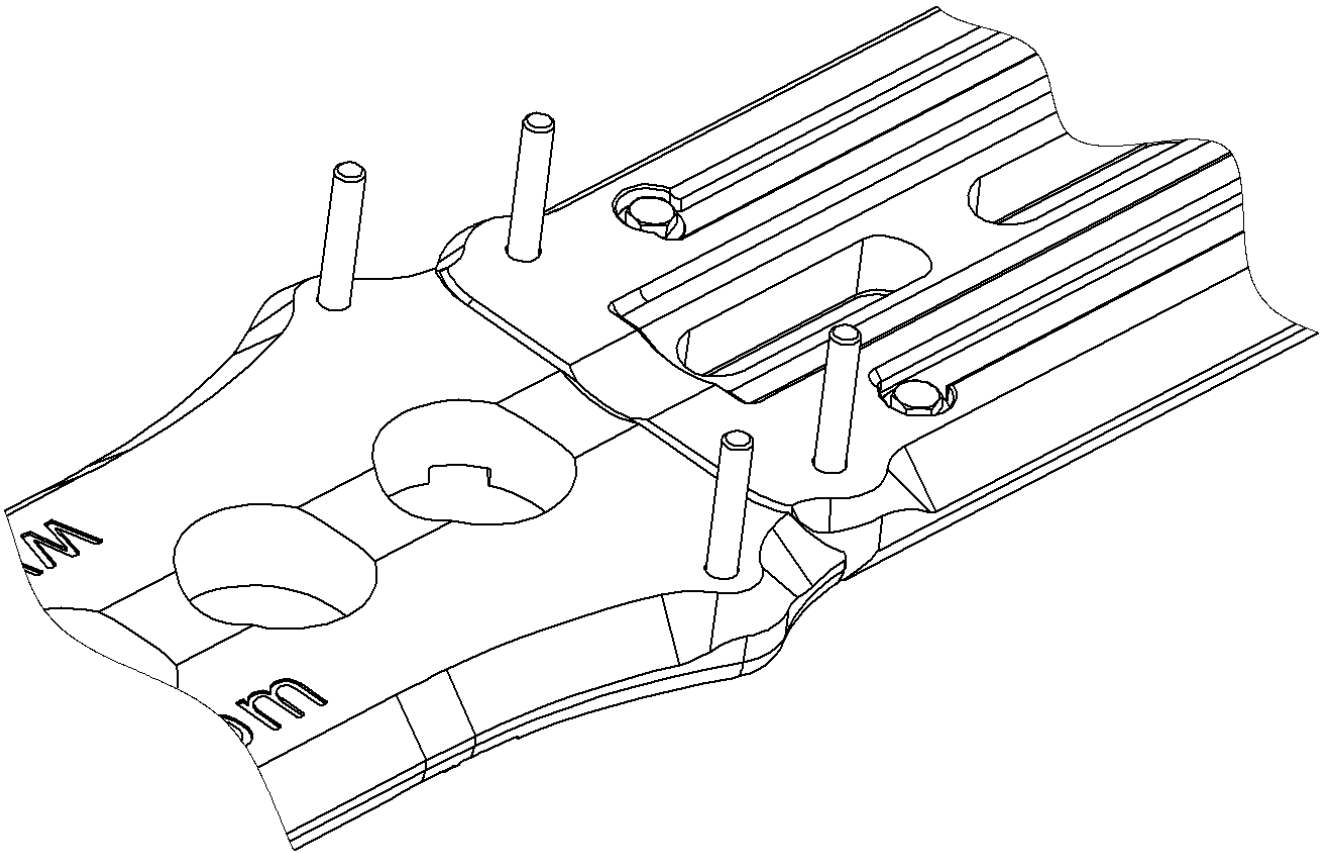

Figure 4
1. For aircraft configured for hoisting operations, temporarily remove the RHS AFT INBD and OUTBD nut and washer retaining the carriage bolts on the Traction Paw, Assy, (Item 2). See Figure 4.
2. Temporarily remove the RHS FWD INBD and OUTBD nut and washer, retaining the carriage bolts on the Bear Paw, Assy, Kit, (Item 1). See Figure 4.